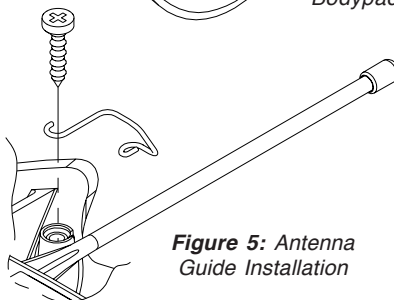
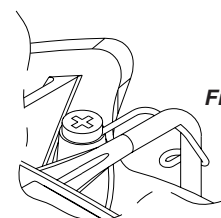

Figure 5: Antenna Guide Installation
Figure 6: Orientation of Antenna with Antenna Guide
- 7) If desired, install antenna guide using screw provided (see figure 5). First drive in screw completely, then back it out slightly, hook on antenna guide and screw it down. Orient antenna within guide to achieve vertical antenna polarization (see figure 6).